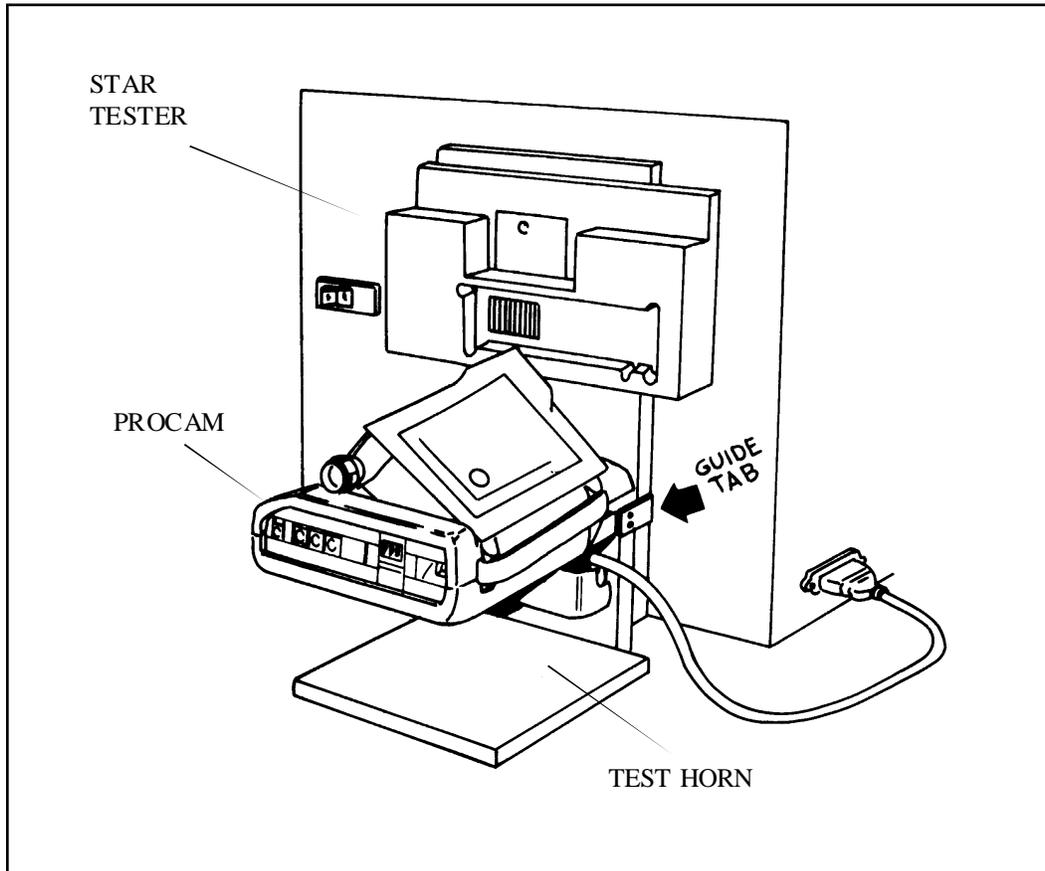

Figure 2-4. Positioning ProCam on Test Horn against Tester.
8. Position the test horn with the ProCam mounted on it against the front of the Tester, with the guide tab on the right side of the test horn against the right edge of the window mounting plate (Figure 2-4).